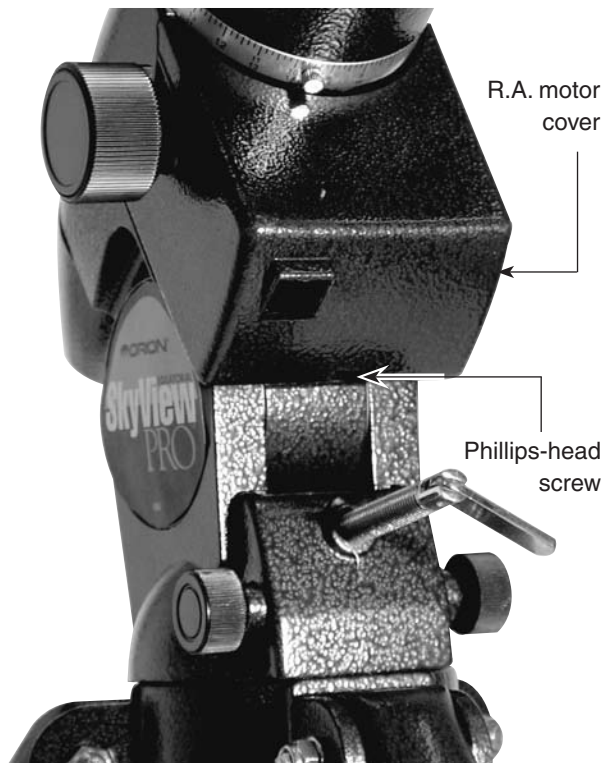

Figure 1. The R.A. motor cover.
1. Remove the R.A. motor cover from the mount by loosening the Phillips head screw on the bottom of the cover (Figure 1). Slide the cover off the mount.